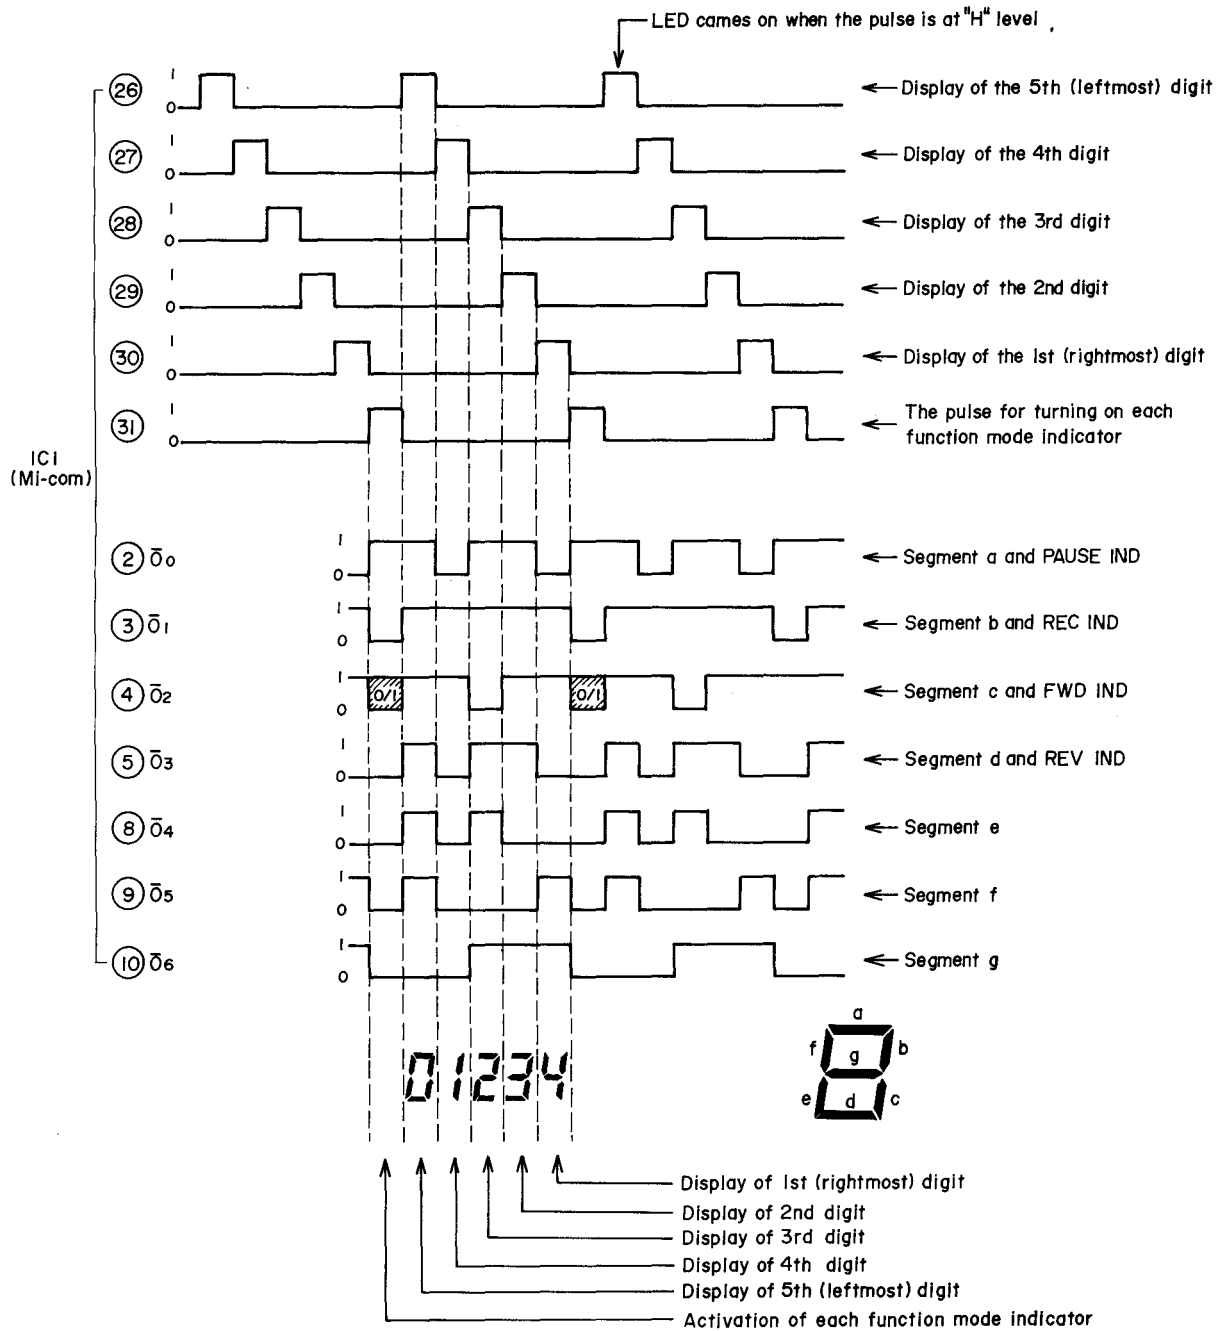

Fig. 23
Here we will explain about the situation in Fig. 23 (FWD PLAY/PAUSE) as one example. Hereinafter FWD PLAY is just written as PLAY. Under PLAY/PAUSE, PAUSE of the function mode indicator is always lit and PLAY is flashing. Firstly, refer to the vertical row of the function mode indicators of O0 - O3 in Fig. 23. You will note that PAUSE IND has "H" level, PLAY IND has "L/H" flashing and others have "L" level.
Fig. 23 shows the timing chart. By means of the waveforms of IC (26) - (30) coming from the microcomputer, the lighting position of LED of each digit is moved in sequence. Take the example of the first digit.
tion of $\bar{O}_0 - \bar{O}_6$ of the first digit indication in Fig. 23, b, c, f, and g segments are lit and a, d and e segments are dark. In this condition, the indicator indicates 4. Similarly if we look at the 2nd - 5th digits, $\bar{O}_1\bar{O}_2\bar{O}_3\bar{O}_4$ is indicated in the condition of Fig. 23.